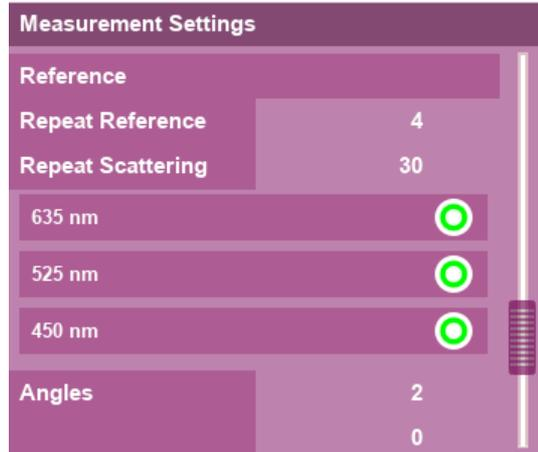

Figure 215 – Example of NE-300 Wavelength Selection
11. Confirm that your desired wavelength is selected. Figure 215 shows all three wavelengths enabled which is the most common selection for a NE-300.